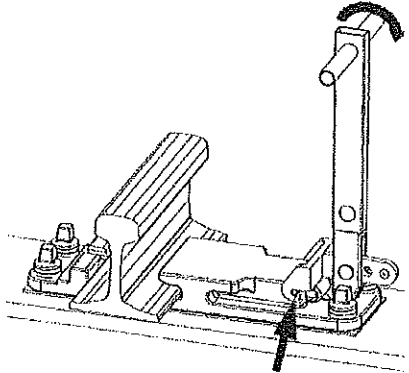

Fig. 52-Drive IFAST spring with installation tool into position
- Attach the assembly tool to the slide chair and drive the iFAST spring to the stock rail until the end of the spring is in contact with the slide chair, Fig. 52.